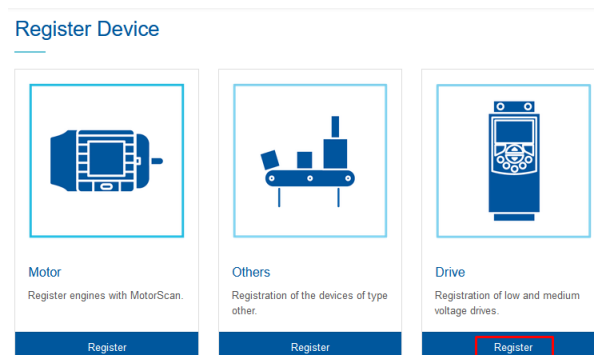

Figure 3.5: Adding a drive
- Step 4** Select the “Drive” option and click on the “Register” button, as shown in Figure 3.5.